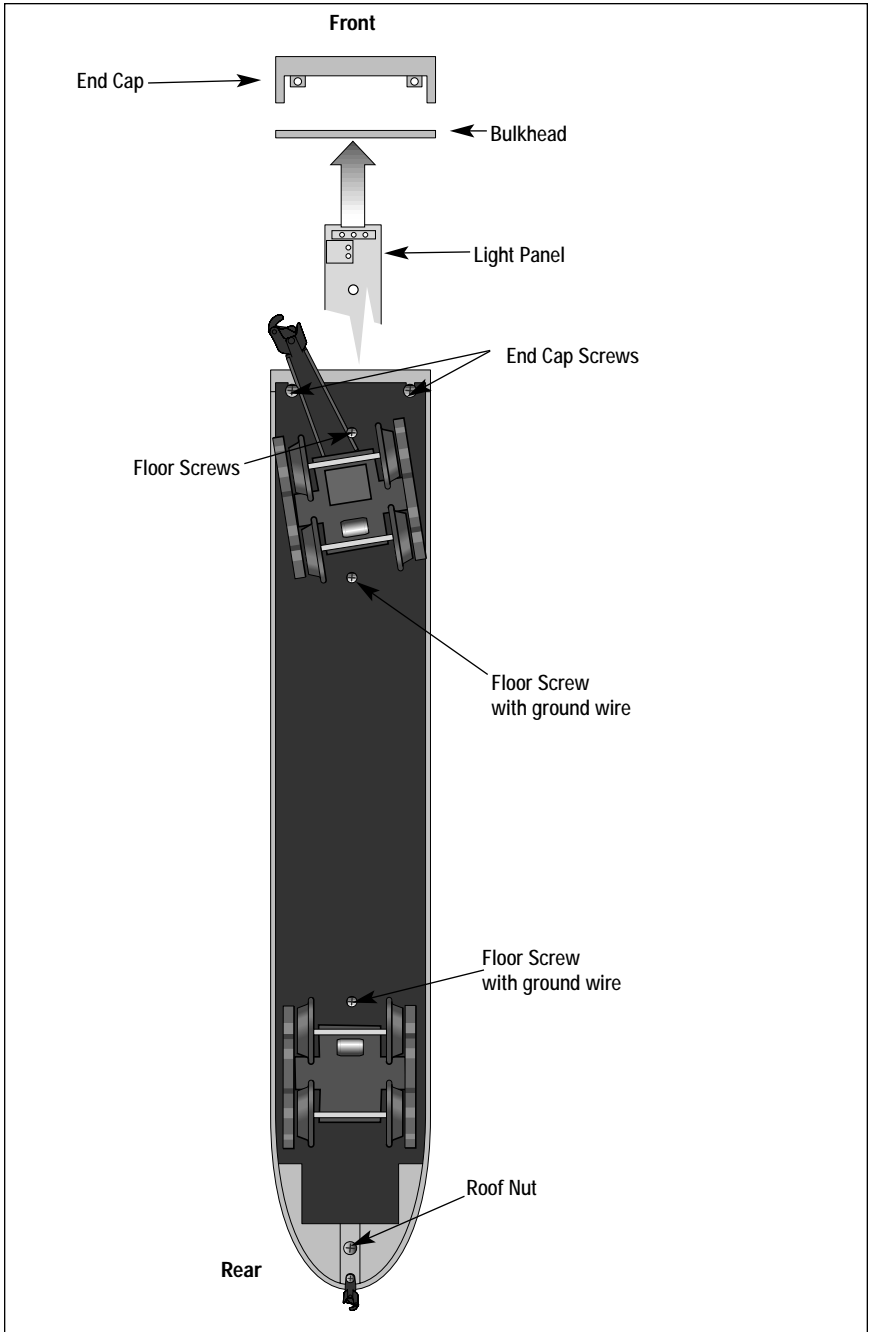

Figure 9. Removing the end cap and light panel
1. Loosen the two end cap screws at the bottom of the frame. Refer to the Figure 9 for screw locations.
3. Remove the two floor screws that attach the wires to the frame near the trucks. Also, remove the floor screw located in the frame near the forward truck (near the front of the car). Refer to the Figure 9 for screw locations.